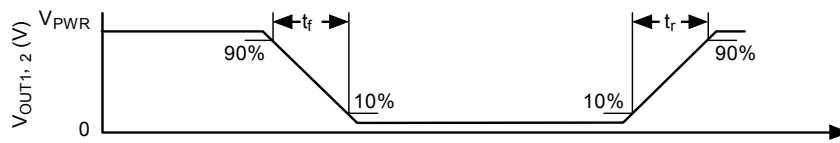

Figure 4. Output Switching Time
- Rise Time is from the 10% to the 90% level and Fall Time is from the 90% to the 10% level of the output signal. See Figure 4.